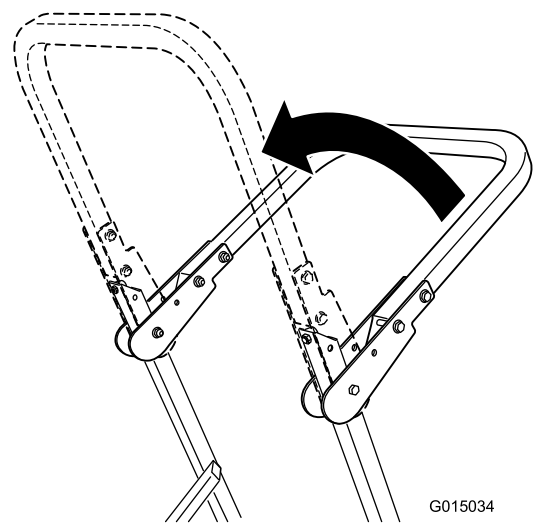

Figure 10
2. Raise the roll bar to the upright position (Figure 10).
3. Install the locking pins. Secure the pins by installing the hair cotter pin (Figure 10).
4. To lower the roll bar, remove the hair cotter pin and remove the locking pin.(Figure 10).